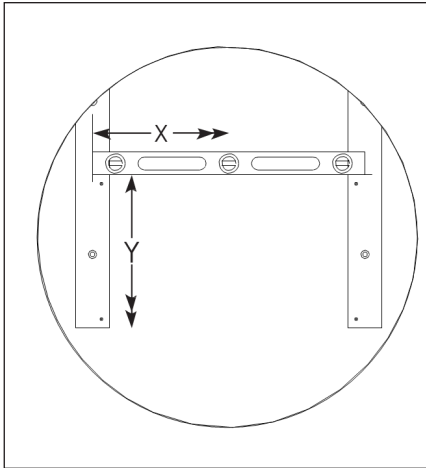

Figure 4: Measure & Mark First Panel Location
1. Measure and mark the correct panel location. Refer to **Figure 4**.